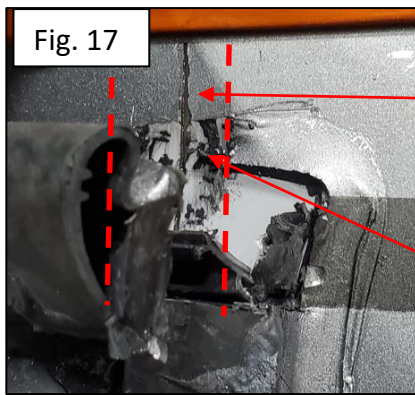

Fig. 17
4. Utilize a putty knife, remove previously installed seal 3/4 inch on each side of the cut. (Figure 17 – Dashed Area)